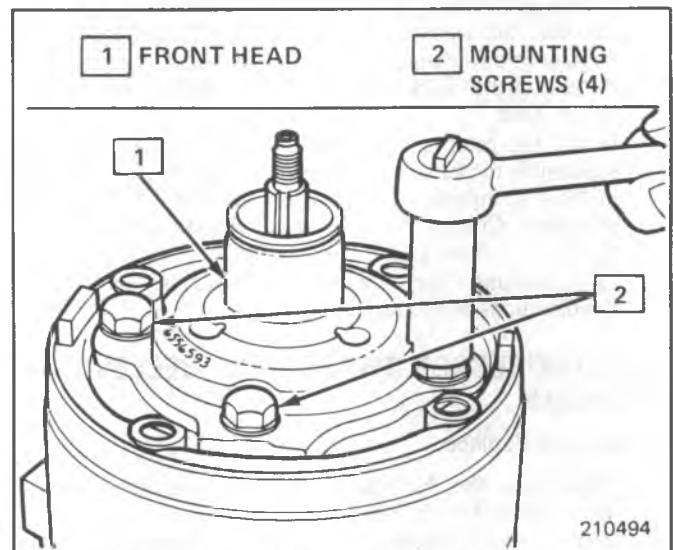

Fig. 1C1-35 Removing Front Head Mounting Screws
4. Remove the four front head mounting screws (Fig. 1C1-35) and remove the Front Head assembly (Fig. 1C1-36).